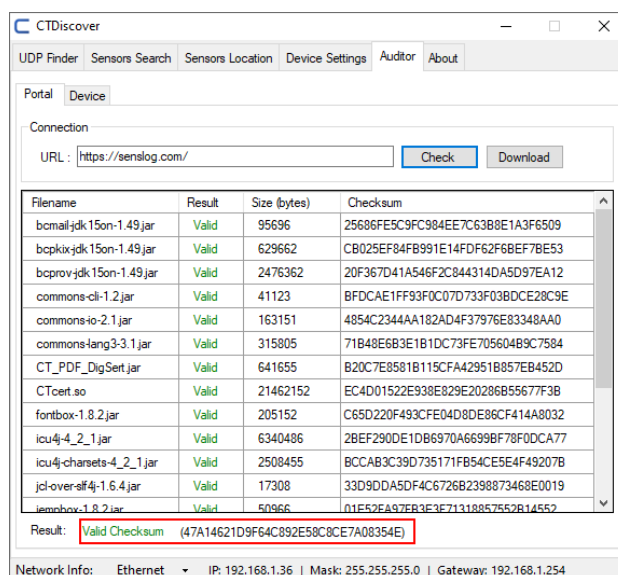

Figure 31 – Senslive Result - Valid
- If option “Check” is selected the files are validated by legally relevant software “CT Discover” and showed in table the file name, size and respective checksum. At the end, an overall checksum is calculated and presented to user (Figure 31).